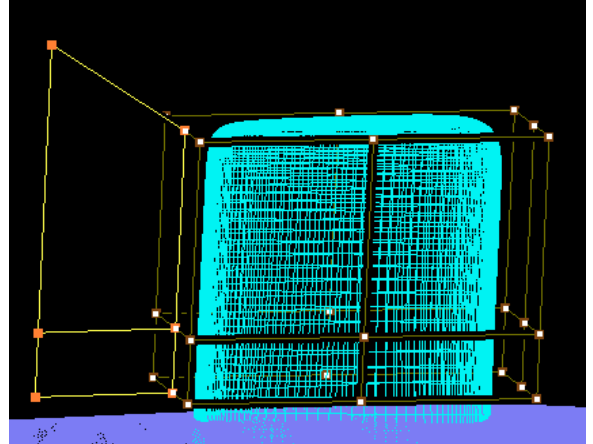

Figure 23
- Switch on group 4 and kill everything in it. Add corner shown in figure 23 to it. This group will be defined as Direction group.